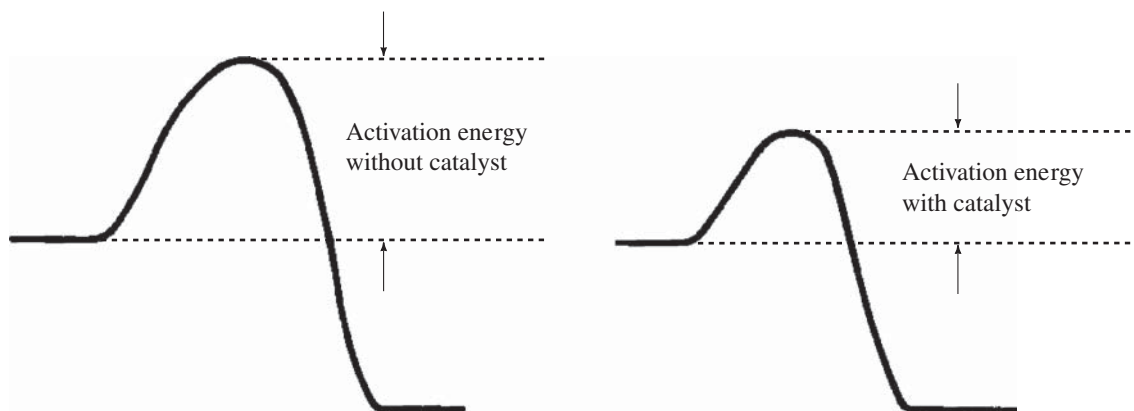

Figure 16.3
- 5. Catalyst.** Any substance that increases the rate of reaction without itself being used up in the process is called a *catalyst*. A catalyst increases the rate of reaction by lowering the activation energy (Figure 16.3). Thus many more molecules can cross the energy barrier (activation energy) in the presence of a catalyst than in its absence. Almost all the chemical reactions in our bodies are catalyzed by specific catalysts called enzymes.